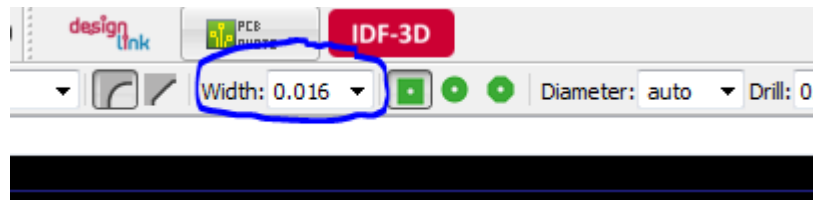

Figure 10
3. Once the **trace** icon is selected, the width can be changed to the desired value using the width dropdown menu as shown in **figure 10**. It is important to note the units that are being used.